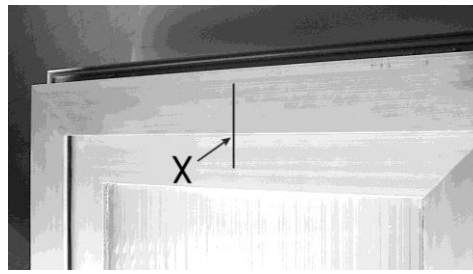

Figure 7
- A. Pencil in an "X" over the centre line of the window frame (Fig. 7).